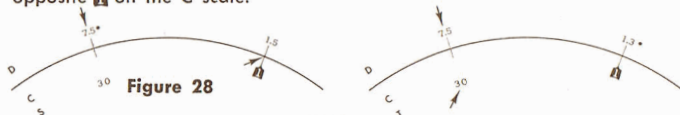

Figure 28
**Example:**  $15 / 30^\circ = 13.0 + j 7.5$  (Figure 28)